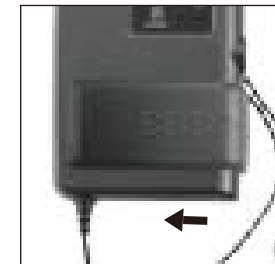

Figure 3
- (3) Cover back the lid.(Figure 3)